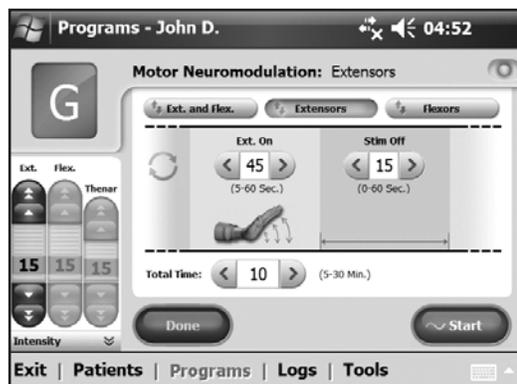

Figure 8-30: Program G, extensors window.
1. Adjust extensors on time, stimulation off time, and total time. See Figure 8-30.